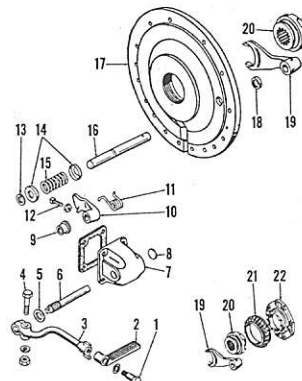
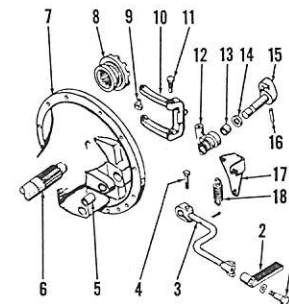
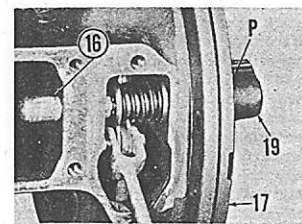

Fig. 236—Exploded view of differential lock and associated parts used on models with planetary final drive.
Fig. 237—Exploded view of differential lock actuating mechanism used on models without planetary final drive.
Fig. 238—Installed view of actuating shaft and associated parts used on models with planetary final drive. Refer to Fig. 236 for parts identification.
Refer to Figs. 236 or 237 for exploded views of the differential lock actuating mechanism and associated parts.
205. ADJUSTMENT. The differential lock coupler should be fully engaged when pedal pad (2—Fig. 236 or 237) clears tractor step plate by 1/4-inch. If adjustment is required, loosen the clamp screw (4) and reposition pedal (3) on actuating shaft (6—Fig. 236 or 15—Fig. 237). Retighten clamp screw (4) when adjustment is complete.
206. REMOVE AND REINSTALL. To remove the differential lock coupler halves (20 & 22—Fig. 236), first drain transmission and hydraulic reservoir, block up under rear axle center housing and remove right fender and rear tire and wheel assembly. Remove right lower hitch link and disconnect right brake linkage. Support
To remove axle half of coupler on models without planetary final drive, unbolt rear axle outer bearing retainer from axle housing (7—Fig. 237) and withdraw axle (6) from housing; then lift out the coupler (8). Shoes (9) will be free in fork (10) with coupler removed. On models with planetary final drive, drive out the roll pin (P—Fig. 238) and remove the two screws securing carrier plate (17) to axle housing; then slip carrier plate (17) to axle housing; then slip carrier plate (17), fork (19) and sliding coupler (20—Fig. 236) as a unit from axle.
To service the actuating mechanism on models without planetary final drive, remove the clamping bolt (4—Fig. 237) and withdraw actuating shaft (15) from housing (7) and pedal (3), then lift out the remaining actuating parts. On models with planetary final drive, remove cam housing (7—Fig. 236) and brake lever support from axle housing and remove shift fork and coupler as previously outlined. Working through the hole in axle housing, unseat the snap ring (13) and withdraw shaft (16), spring (15) and associated parts.